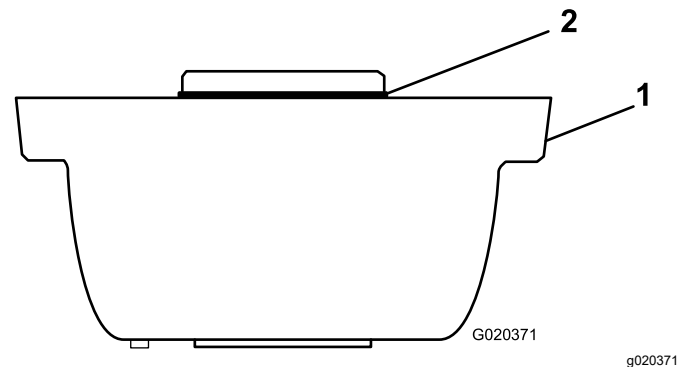

Figure 3
1. Lightly grease the O-ring and ensure that the O-ring is installed on the roller-brush housing (Figure 3).